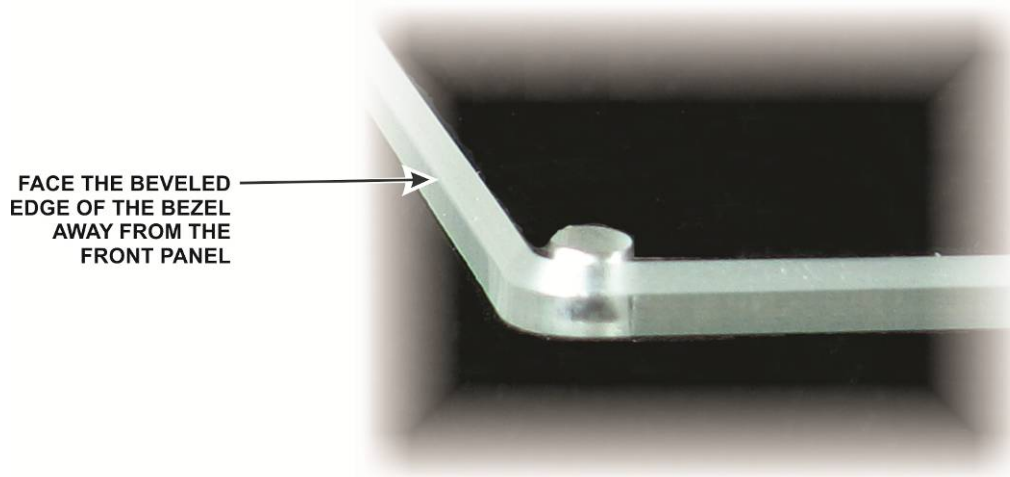

Figure 31. Bezel Beveled Edge.
□ Look closely at the edge of the bezel and note that the edge is slightly beveled on one side (see Figure 31). This side will face away from the front panel.